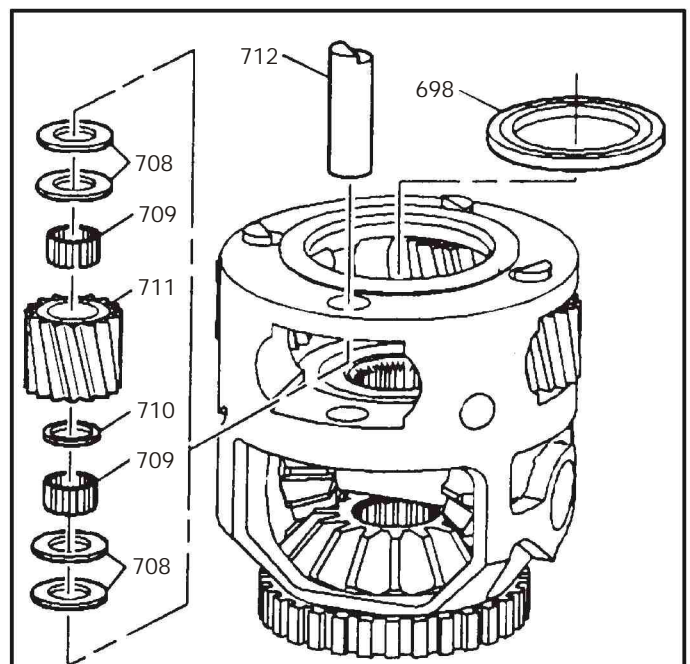

Figure 85
1. Inspect the differential carrier assembly for the following; Refer to Figure 85.
4. Remove the 1st planetary pinion by removing the following; Refer to Figure 85.
- The planetary pinion pin (712)
- The pinion thrust washers (708)
- The pinion gear needle bearings (709)
- The needle bearing spacer (710)
- The planetary pinion (711)
6. Remove the differential carrier sun gear thrust bearing assembly, as shown in Figure 85.